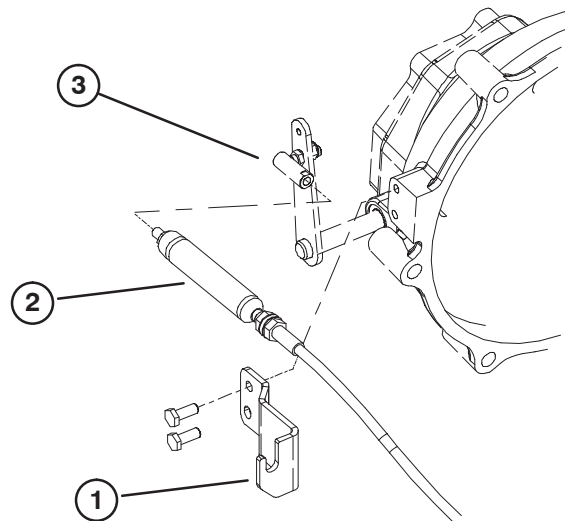

Figure 3
6. Install the new mounting bracket to the bell housing using the (2) capscrews previously removed (Fig. 3).
8. Thread the end of the new clutch cable into the ball joint on the bell housing lever (Fig. 3).
9. Loosely install the clutch cable to the mounting bracket (Fig. 3).